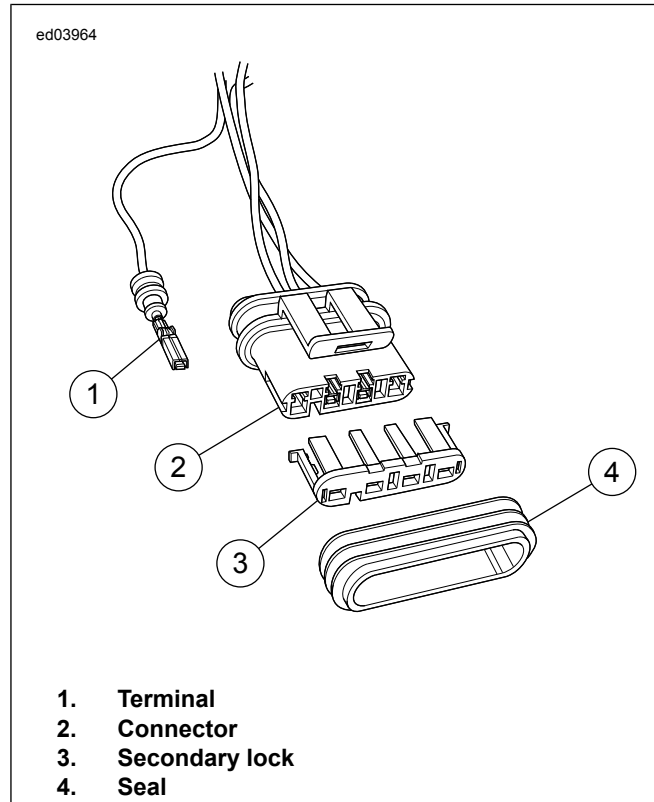

Figure B-53. Tyco SuperSeal 1.5 Sealed Connector
2. See Figure B-53. Remove seal from connector.
4. See Figure B-53. Install secondary lock into connector.